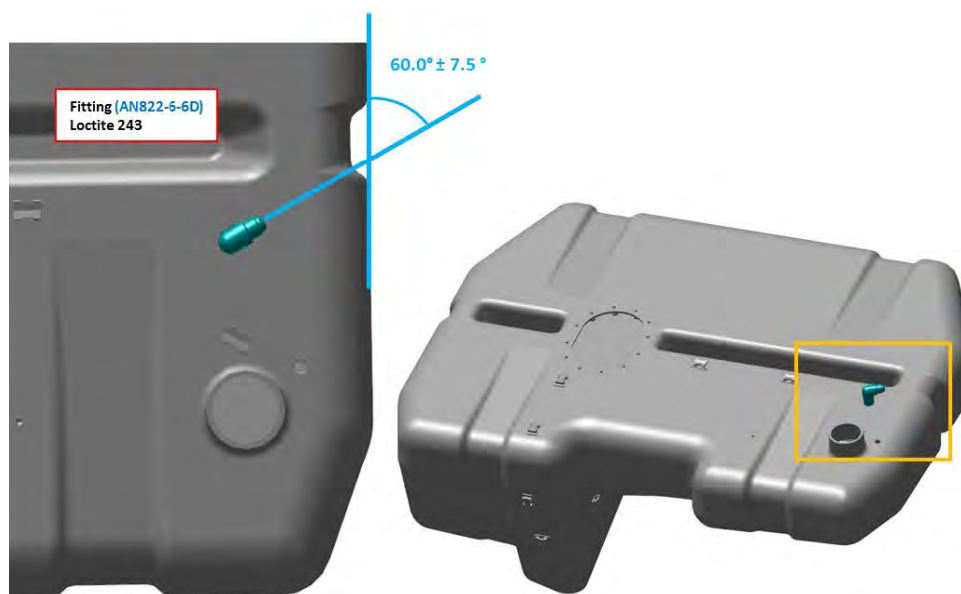

FIGURE 10-16
5. Install the 3/8 FLARED TUBE ELBOW FITTING into the Fuel Tank as shown in Figure 10-16 and as follows: